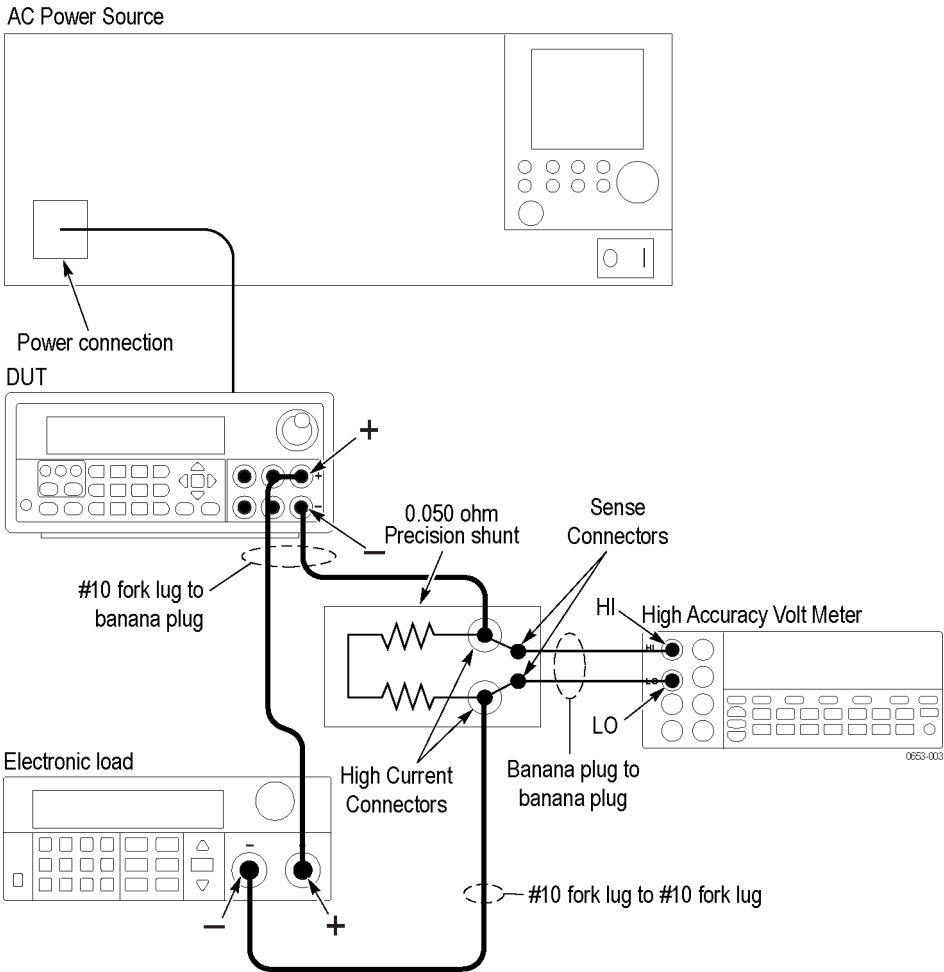

Figure 6: DC current accuracy and regulation test setup. The channel 1 test setup is shown.
1. Set up the equipment as shown. (See Figure 6.)
This check procedure uses the same test setup as the previous procedure. (See Figure 6.)